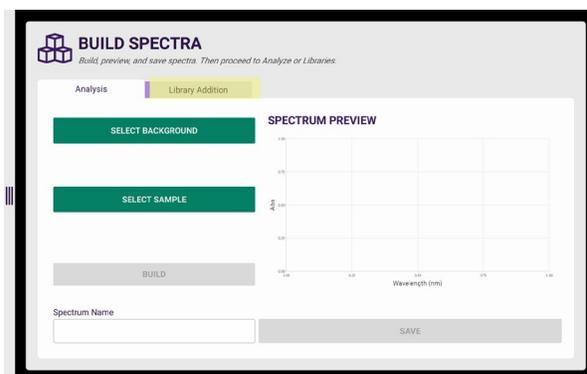

Figure 17. Library addition tab (yellow) selected for building spectra for new library components.
2. Select the library addition tab (Fig. 17) and follow the steps from Section 6.4 to link the relevant background and sample scan to build the candidate Spectrum for your new custom analyte.